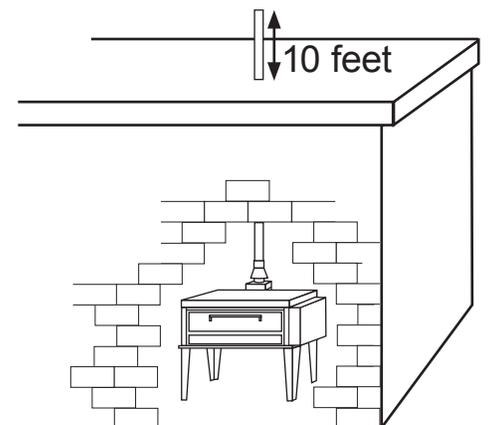

Figure 4
**WARNING:** Flue pipe must be higher than nearest roof peak (refer to Figure 4).